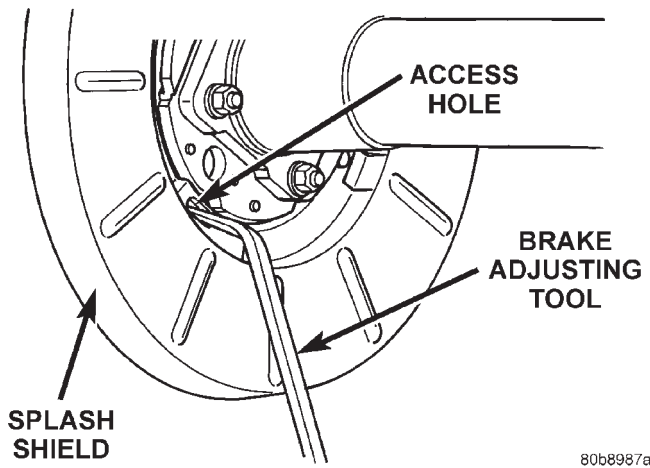

Fig. 83 Park Brake Shoe Adjustment
- (1) Remove wheel and tire assemblies.
- (2) Secure rotor with two wheel nuts.
- (3) Remove rubber access plug from back of splash shield.
- (4) Insert brake tool through access hole in splash shield (Fig. 83). Position tool at bottom of star wheel.